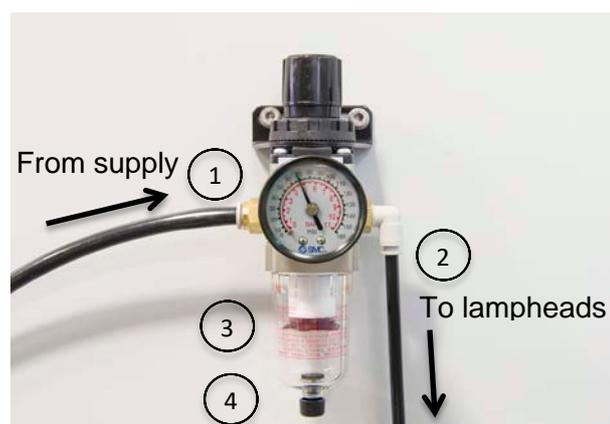

Figure 4: Pneumatic supply moisture trap
6. Arc-UV and ArcLED systems: Check that the pneumatic supply to the lampheads is between 5 and 6 bar. Check that the connections (1), (2) are secure. Check the moisture trap (3) for any accumulated liquid and drain from the tap (4) if necessary following instructions on bowl. See Figure 4.